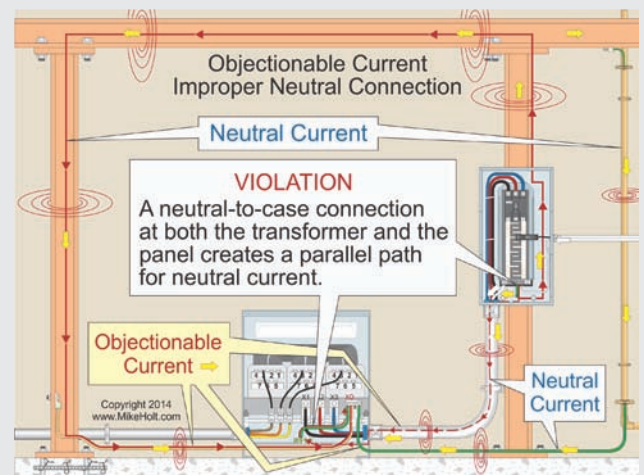

Figure 250-25
**Separately Derived Systems.** Objectionable neutral current will flow on metal parts if the neutral conductor is connected to the circuit equipment grounding conductor on the load side of the system bonding jumper for a separately derived system. Figure 250-25